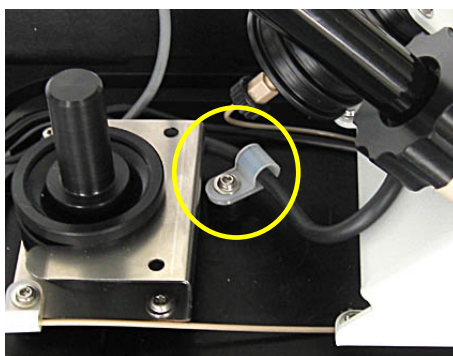

Fig. 21: Remove the clamp for the conductivity flow cell cable
2. Loosen the screw of the clamp that fixes the flow cell cable (\rightarrow Fig. 21) by using a screwdriver (TX10, included in accessories).
6. Route the cable of the new flow cell through the clamp and fix the clamp to the flow cell carrier as shown in Fig. 21. Then route the cable through the cable guide and move the strain relief back into its closing position (→ Fig. 11 left, page 22).